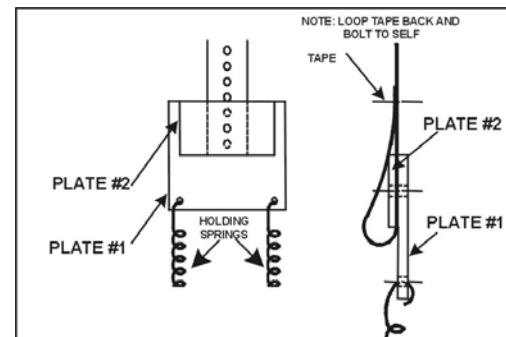

Figure 1-25
- Double over a short portion of the end of the tape and secure the bottom portion of the tape between plate #1 and plate #2. Cut off and discard remaining tape. [See Figure 1-25.]